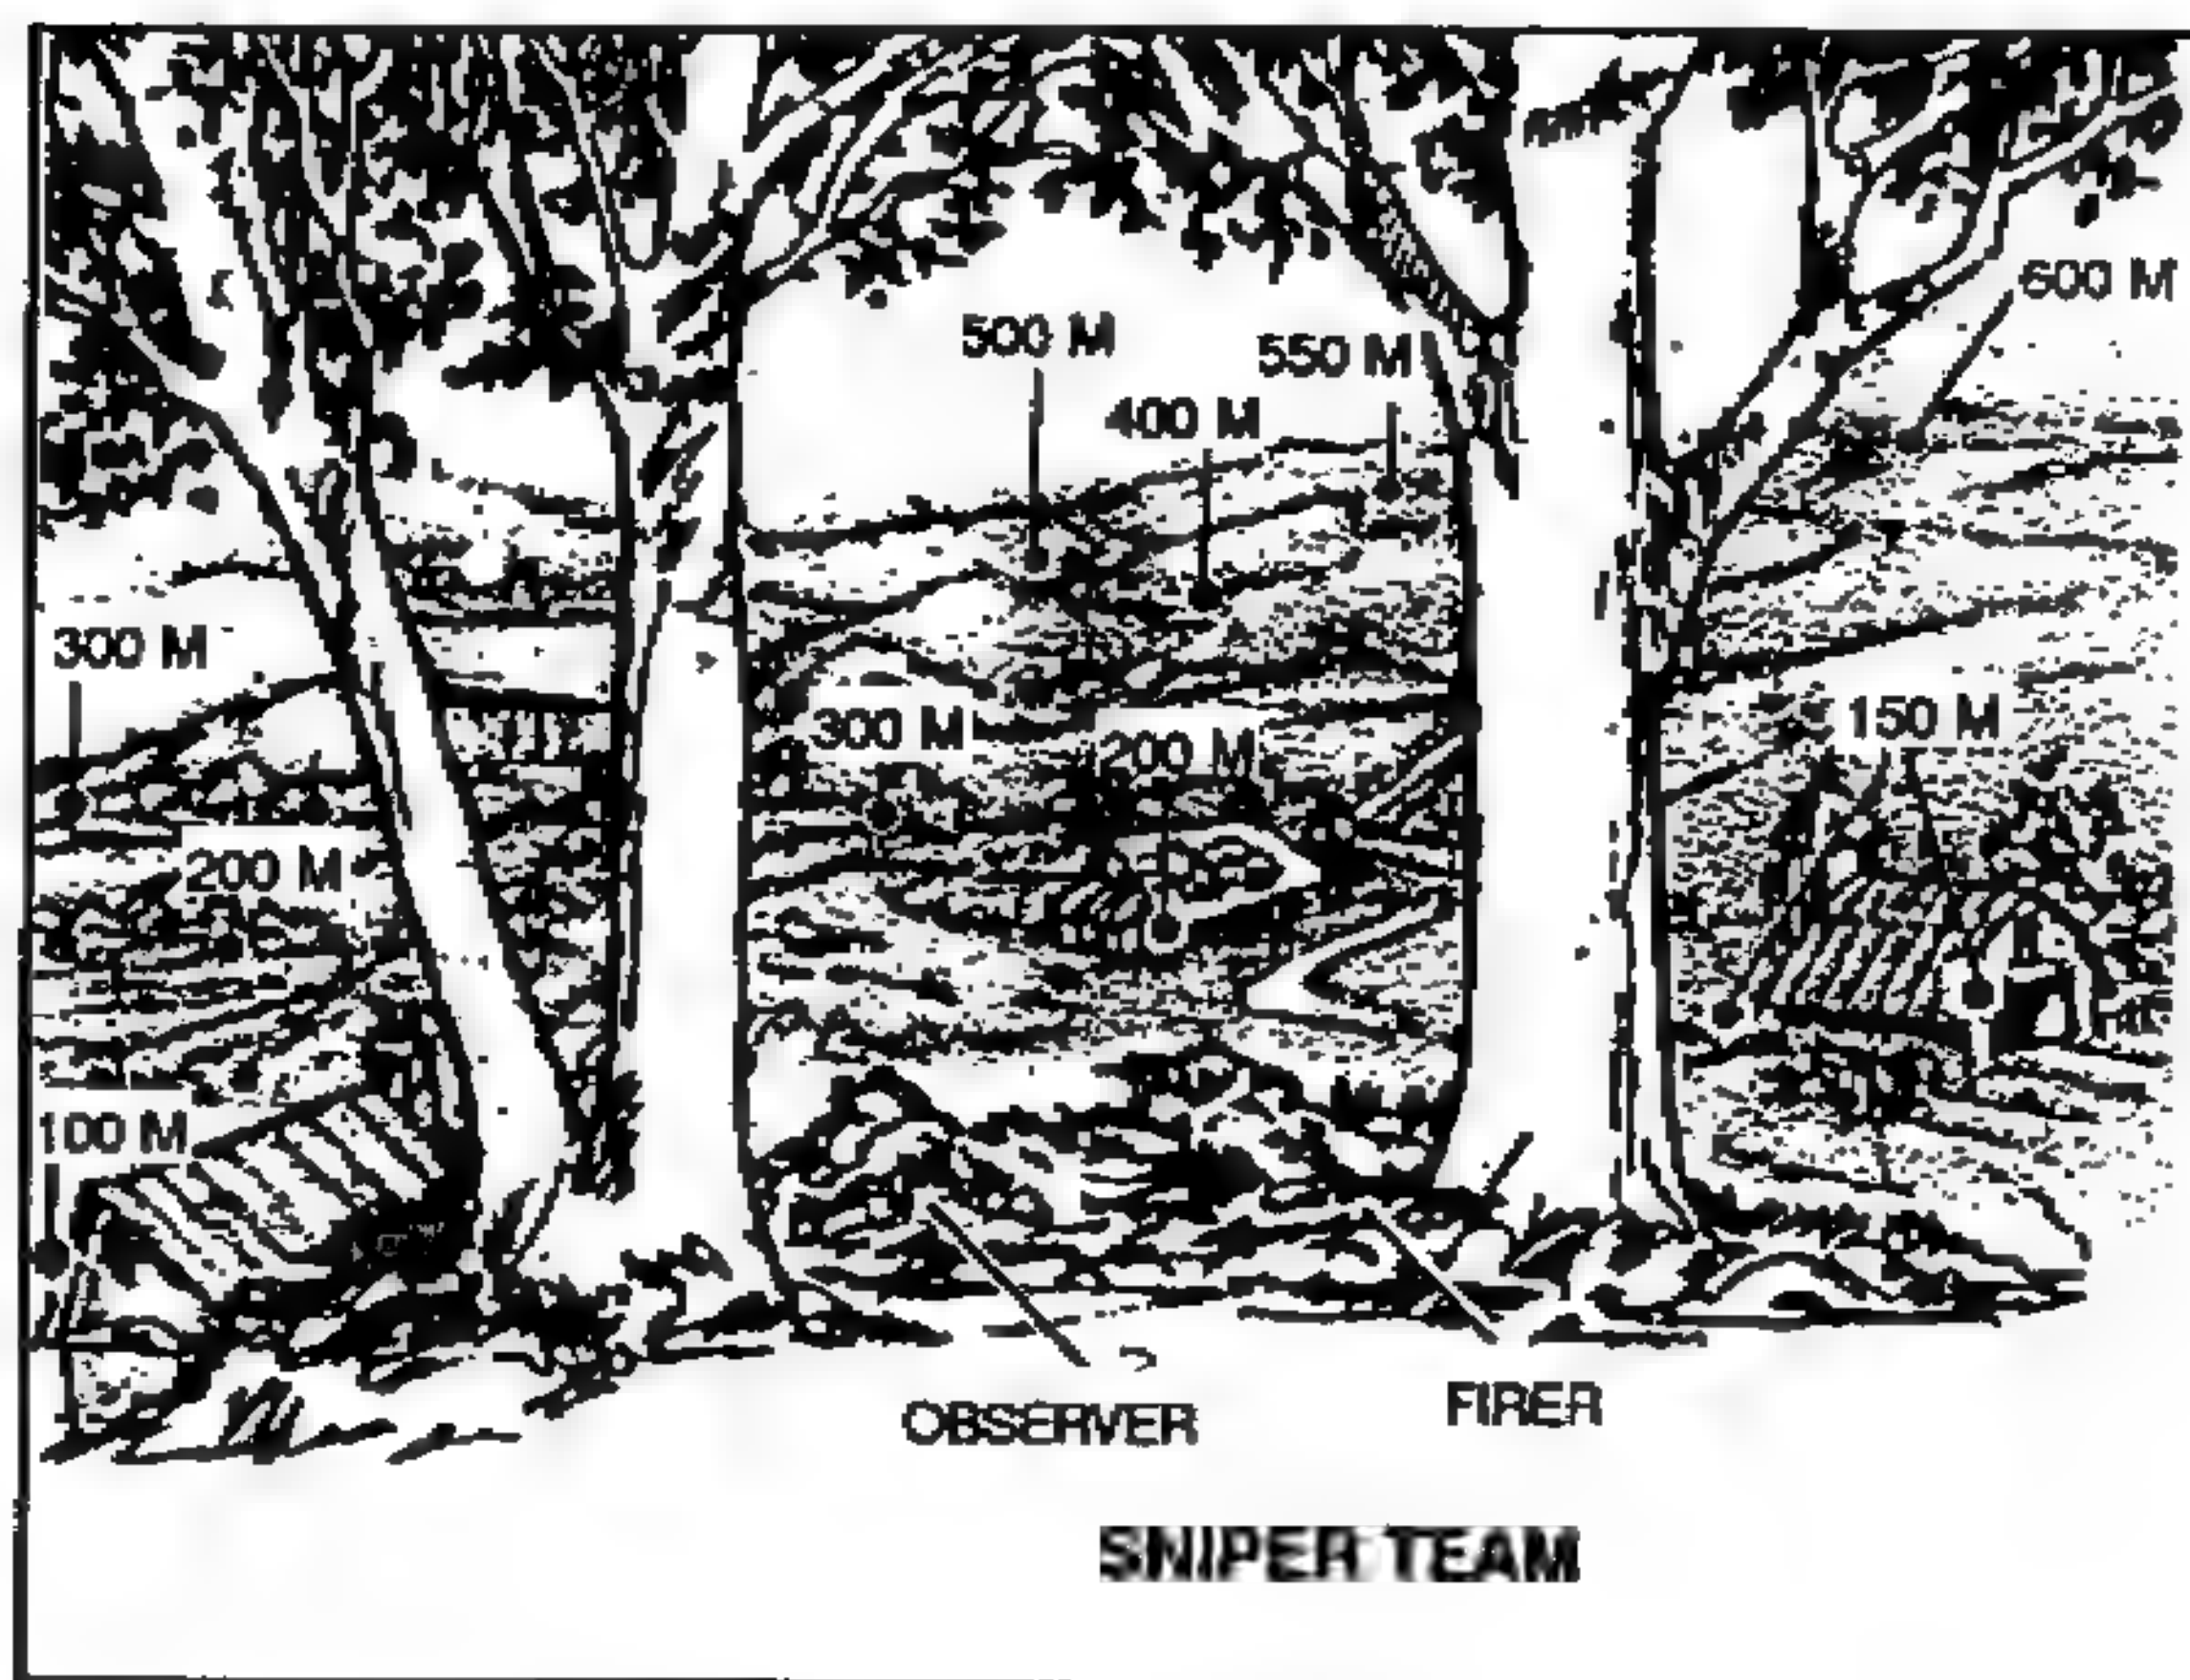

Figure 4-16. Detailed search.
b. After a hasty search has been completed, the observer then conducts a detailed search of the area. A detailed search is a closer, more thorough search of the target area, using 180-degree arcs or sweeps, 50 meters in depth, and overlapping each previous sweep at least 10 meters to ensure the entire area has been observed (Figure 4-16, page 4-30). Like the hasty search, the observer begins by searching the area closest to the sniper team position.